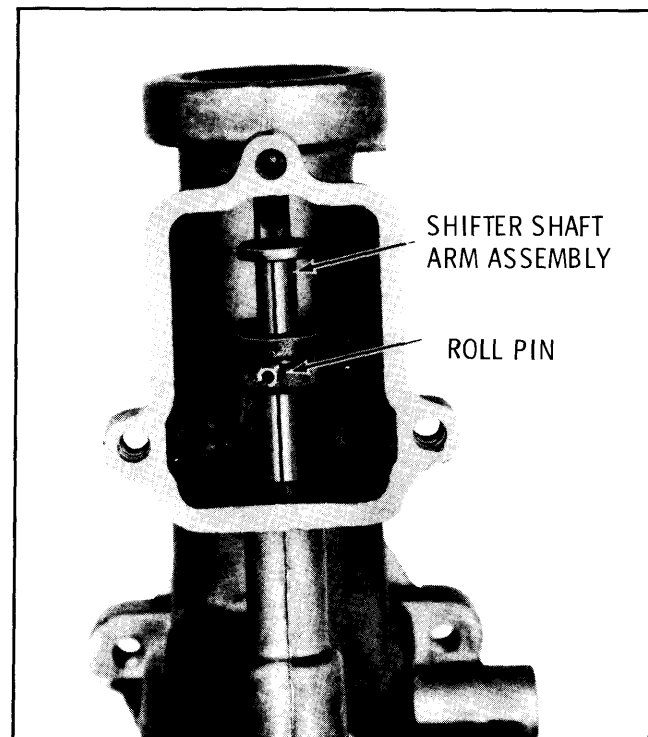

Fig. 7C-1—Shifter Shaft Roll Pin
1. Drive roll pin from shifter shaft arm assembly and shifter shaft. Remove shifter shaft arm assembly. (Fig. 7C-1)